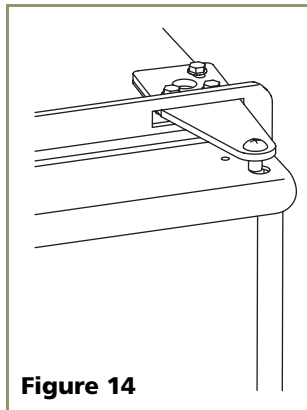

Figure 14
1. Remove top hinge screw pin with a Phillips head screwdriver (see **Figure 14**). Remove door by tilting forward and lifting off bottom hinge pin.